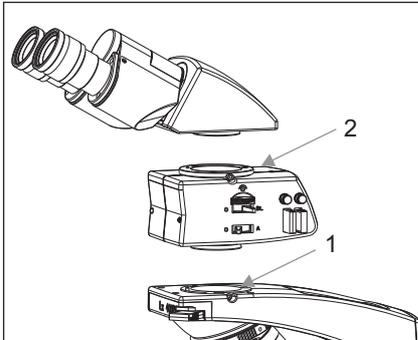

Fig.15
1. Using the 3mm allen wrench (provided), loosen the Head Locking Screw (1) and remove the dust cover cap provided in the dovetail cavity.
2. Mount the Analyzer attachment by engaging the dovetail provided on the attachment into the dovetail cavity on the microscope arm and tighten the Head Locking Screw (1) See figure 15.
4. Tighten the Head Locking Screw (2) after positioning the Observation Head as desired. See figure 15.